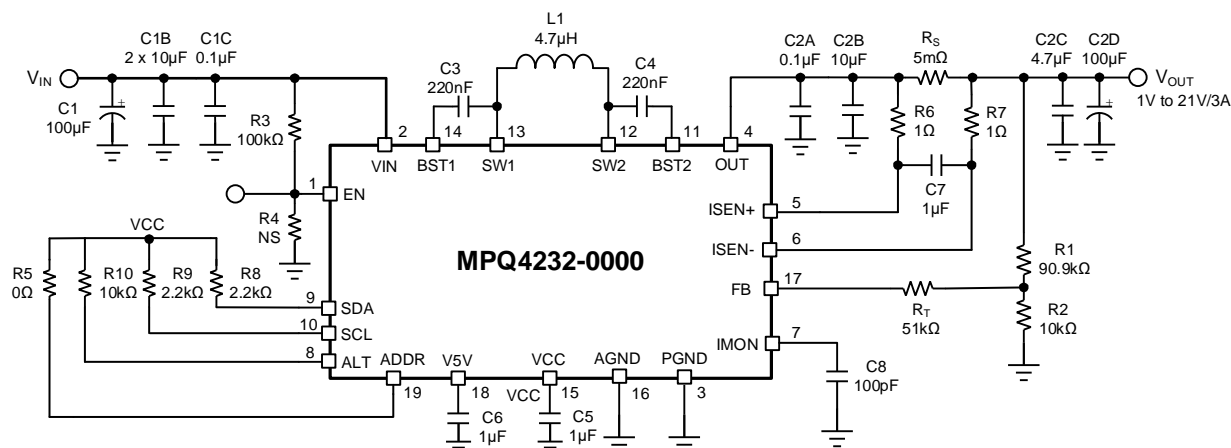

Figure 14: Typical Application Circuit ($V_{IN} = 9V$ to $16V$, $V_{OUT} = 5V$, $1V$ to $21V$ adjustable via the I²C, I2C_EN on by default)
12) The recommended layout is based on Figure 14 on page 38.